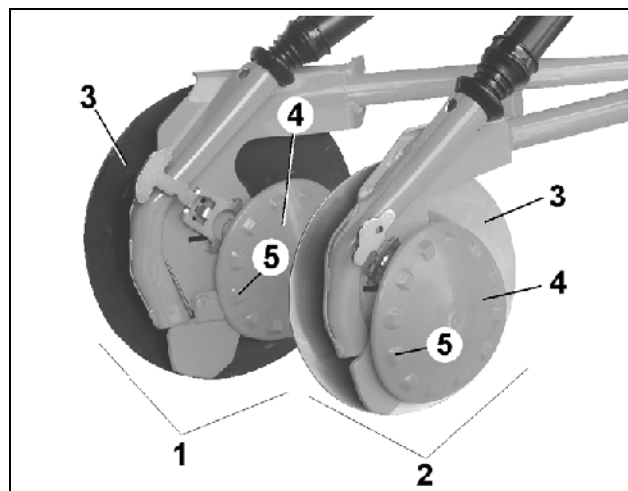

Fig. 19
- RoTeC-coulter (Fig. 19/2)
- RoTeC +-coulter (Fig. 19/1)
The **AMAZONE** RoTeC-coulter can be safely used for both mulch and conventional drilling. Seed furrow former made from hard cast alloy. The elastic polyurethane (PU) depth limiting cleaning disc keeps the inner disc surface clean (Fig. 19/4) The naps (Fig. 19/5) provide additional drive.
The PU depth limiting disc (Fig. 19/4 precisely controls the depth of the seed furrow via three settings from 2 to 4 cm. (Kap. 11.5.2). For work deeper than 4 cm the depth limiting disc can be instantly removed without any tool.